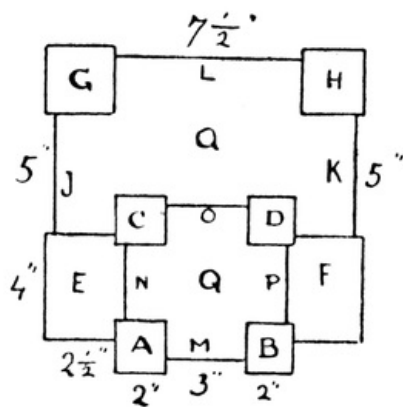
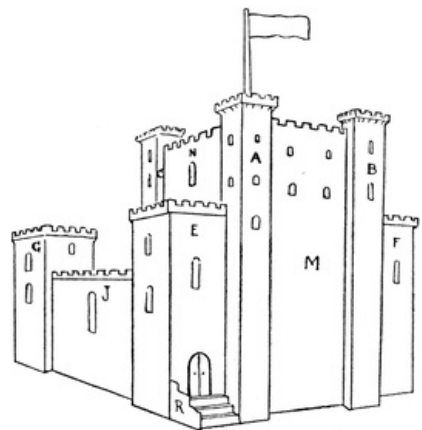

FIG. 349
FIG. 348
**A Castle** (Plate XV). Fig. 348 is an example of a mediæval castle and is somewhat similar to the Castle of Chaluz, which was besieged by Richard I. It is made of cardboard of medium thickness. First make the four towers, A, B, C, D Fig. 349. Cut a piece of cardboard 10 inches by 8 1/4 inches.
Cut a piece of cardboard, R in Fig. 348, about 2-1/3 inches high, and gum it to the side of E to form a wall; between the latter and tower a fit a flight of steps. These are marked out as in Fig. 354.
fastening them to the towers; in height they just reach the battlements of the towers. Make battlements as described, cut out the windows and fasten these sides to the four towers. Colour this part suitably. To make a flat roof for Q (Fig. 349), cut eight lengths of stripwood ¼ inch by ¼ inch just long enough to come about ½ inch below the battlements of the sides, M, N, O, P, and glue these into the eight corners of Q. Cut a piece of cardboard to fit over Q, cut doors in this for access to the roof, and glue it to the tops of the pieces of stripwood.